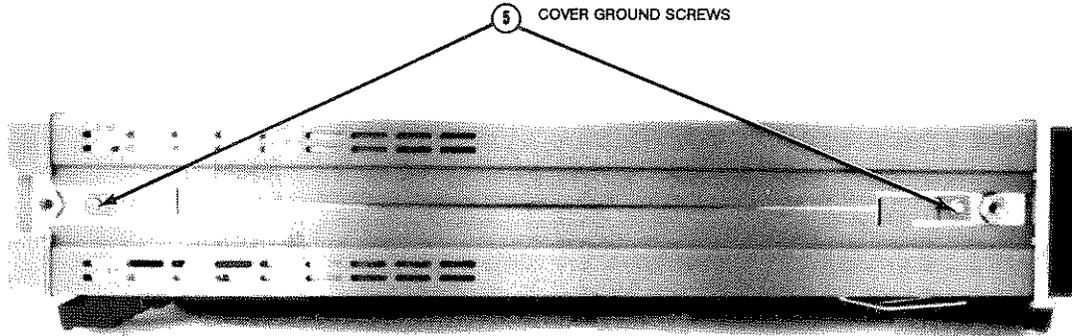

Figure 3-3. Remove/Install Cover Ground Screws
7. Refer to Figure 3-3. Use the #TX10 Torx driver to remove both or either the top and bottom cover ground screws, depending on which cover is to be removed.
16. Refer to Figure 3-3. Turn the instrument so its left side faces you. Use the #TX10 Torx driver to reinstall the top and/or bottom cover ground screws.